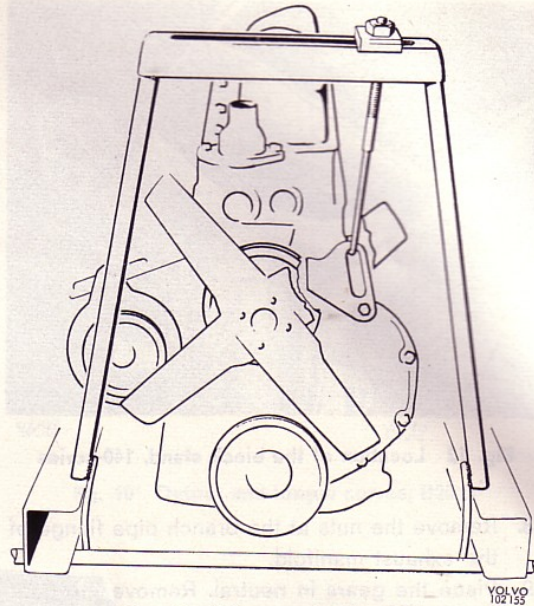

Fig. 16 Lifting tool SVO 2727
1. Fit the plate of the lifting tool SVO 2727 at the upper bolt for the timing gear casing. (Remove the washer.) Place the lifting tool and fix the hook in the plate according to Fig. 16.